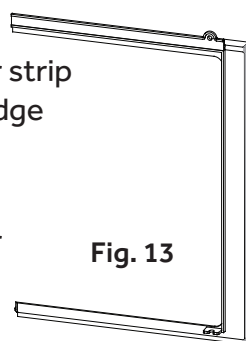

Fig. 13
6. Apply the weather seals provided to the bottom, top & sides of the window to seal around the perimeter of the air conditioner. (Fig 13 & 14)